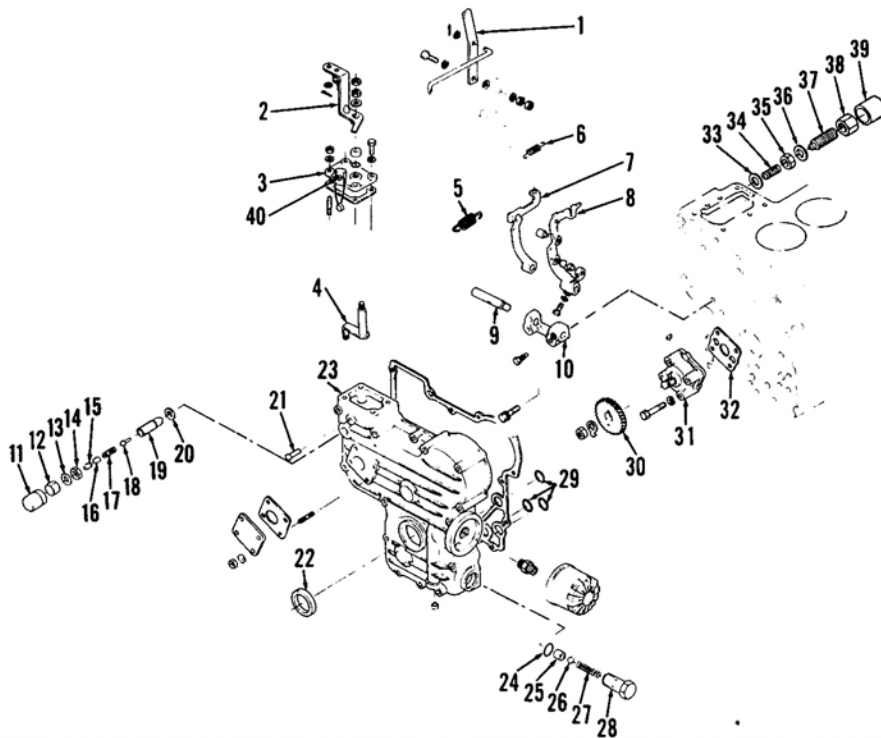

Fig. 16 — Exploded view of timing gear cover and associated components. Be sure "O" rings (29) are in place when installing cover (23).
24. REMOVE AND REINSTALL. To remove timing gear cover, remove cover just below injection pump and detach governor spring (5—Fig. 16) from governor arm (7). Detach control linkage to control lever (2). If radiator obstructs crankshaft pulley removal, then drain coolant and relocate radiator. Remove fan belt and fan, then unscrew crankshaft pulley nut and using a suitable puller, remove crankshaft pulley. Unscrew and remove timing gear cover.
When installing timing gear cover, be sure the three "O" rings (29 - Fig. 16) are in place. Tighten timing cover screws to 9.8-11.3 N·m (7-8 ft.-lbs.) torque. Tighten crankshaft pulley nut to 137.3-156.9 N·m (101-115 ft.-lbs.) torque.
Oil pressure relief ball (26—Fig. 16) and spring (27) are located in timing gear cover. Oil pump unrestricted delivery pressure should be 200-400 kPa (28-64 psi). Relief valve opening pressure is 290-340 kPa (43-50 psi) and is non-adjustable. Tighten screws securing pump to 9.8-11.8 N·m (7-9 ft.-lbs.) torque.